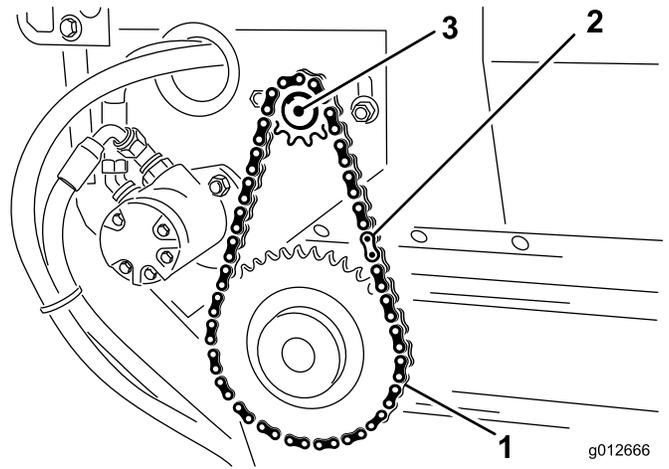

Figure 21
- 2. Remove master link from chain and remove chain from small sprocket (Figure 21).